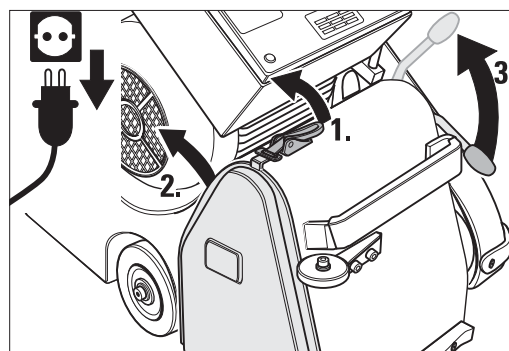

Fig. 26 Release the cover lock, remove the side cover and lower the tensioning roller by raising the lever.
- 3 Release the cover lock and remove the side cover on the right of the machine housing (Fig. 26).
- 4 Pull the opposite operating lever for the drive unit upwards. This lowers the tensioning roller (Fig. 26).